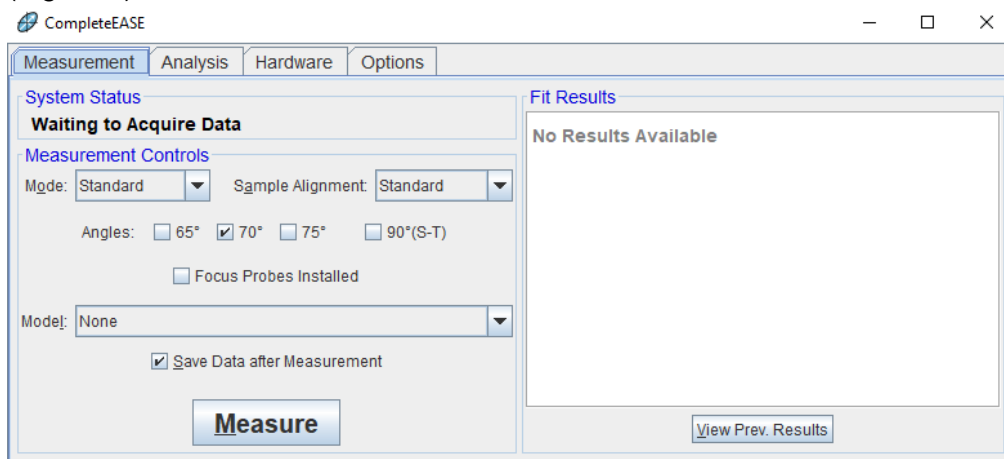

Figure 3: Set up data acquisition
- 5) The system will automatically initialize. Wait until 'Waiting to Acquire Data' is displayed (Figure 3).